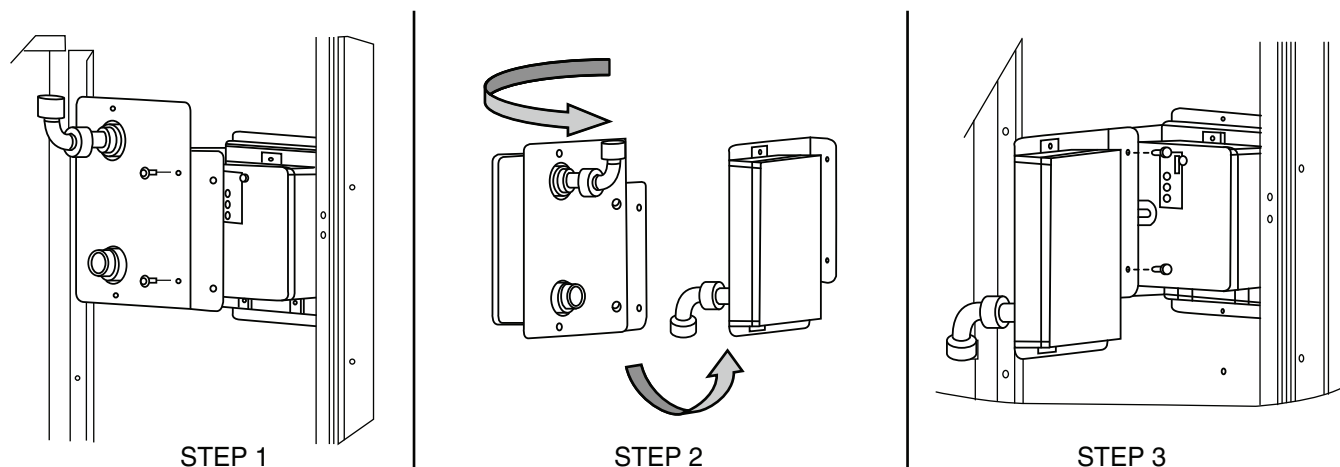

Fig. 46 — Completing Installation of Return Air Smoke Sensor
1. Unscrew the two screws holding the return-air smoke detector assembly. See Fig. 46, Step 1. Save the screws.
2. Turn the assembly 90 degrees and then rotate end to end. Make sure that the elbow fitting is pointing down. See Fig. 46, Step 2.
3. Screw the sensor and detector plate into its operating position using screws from Step 1. See Fig. 46, Step 3.